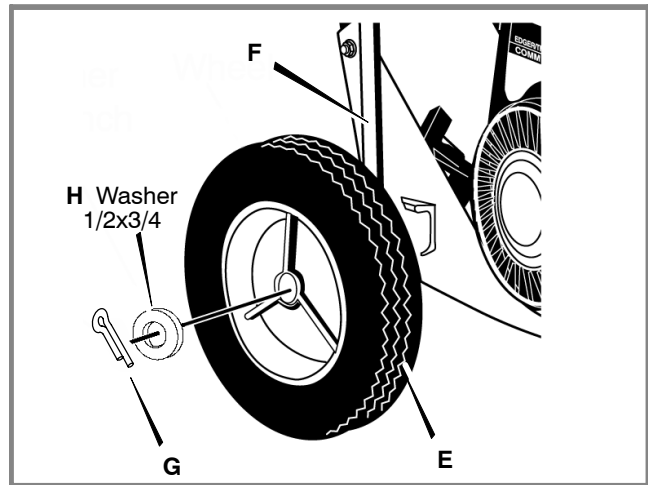

Figure 4: Right Rear Wheel
- 2 Attach the right rear wheel (E) to the wheel support rod (F) with the fasteners (G, H) shown in Figure 4.